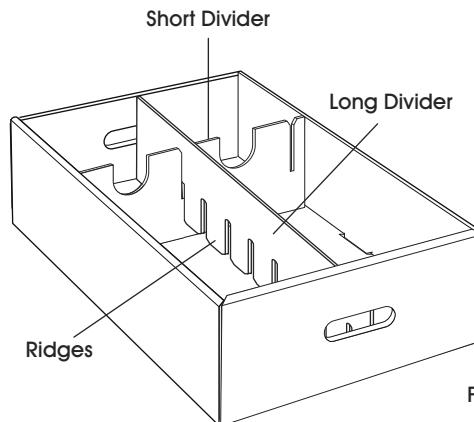

Figure 19
2. Insert long divider into the box as needed, ridges facing downward; and align with the ridge from the short divider. (See Figure 19)